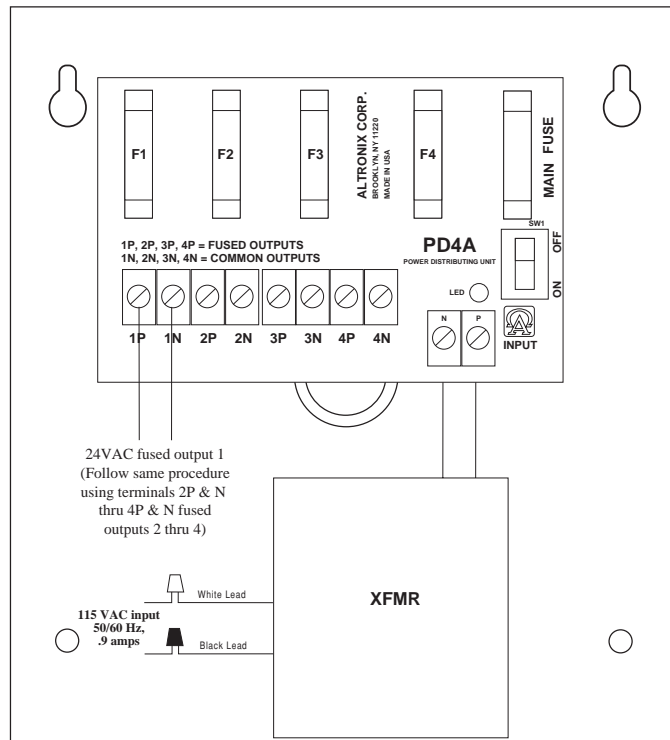

Fig. 1
- Four (4) individual fused outputs.
- Output fuses are rated at 3.5 amp / 250VAC (*Fig. 1*).
- Main fuse is rated at 5 amp / 250VAC (*Fig. 1*).
2. Slide switch SW1 (*Fig. 1*) to OFF position.
3. Connect the AC (115VAC 50/60 Hz) to the black and white flying leads of the transformer (*Fig. 1*).
5. Connect each camera to terminal pairs 1 to 4, marked [1P-1N thru 4P - 4N] (*Fig. 1*).
6. Slide switch SW1 (*Fig. 1*) to ON position.